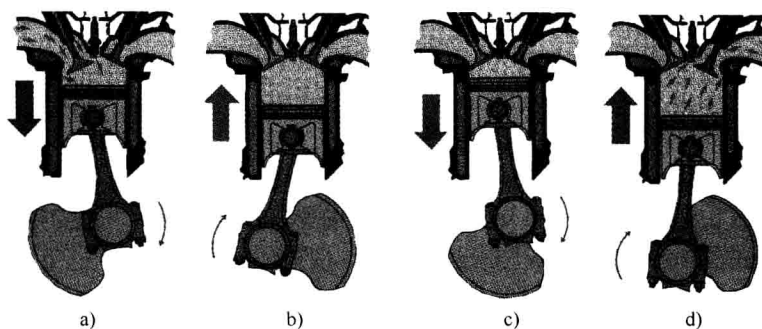

Fig. 1-3 Four strokes of the engine
The complete power cycle requires four piston strokes. See Fig. 1-3:
12. Please write out the four strokes in Fig. 1-3.